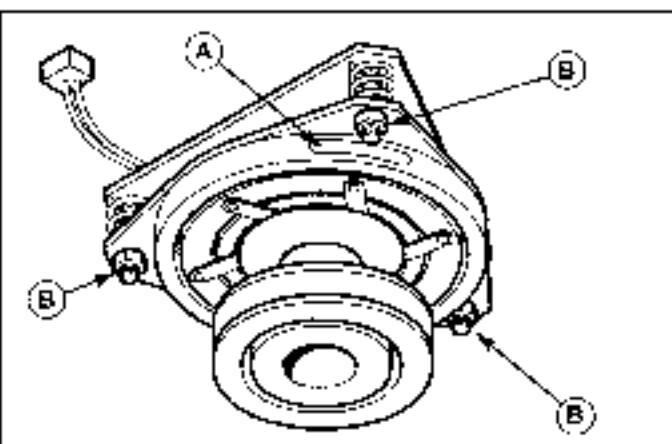

Figure 21. PTO Clutch Adjustment
2. Note the position of the 3 adjustment windows (A, Figure 21) in the side of the brake plate and the nyloc adjustment nuts (B).